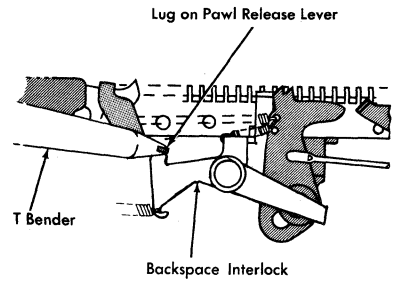

Figure 34. Backspace Interlock Motion Adjustment
1. Form the lug of the pawl release lever which contacts the backspace interlock so that, with the interlock at rest, the backspace pawl may be moved past it with a minimum of clearance (Figure 34).